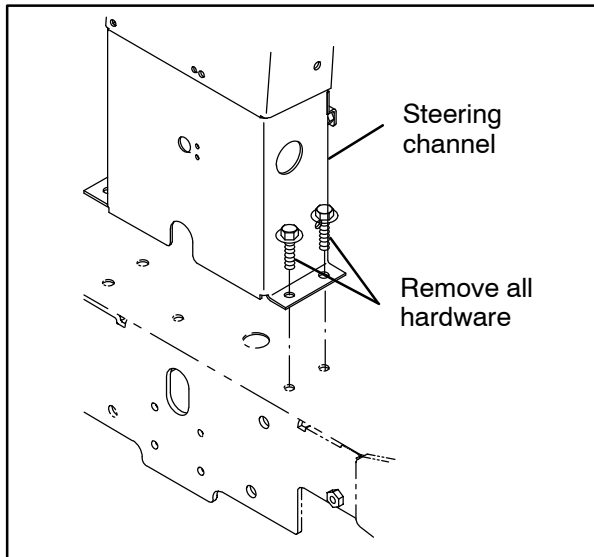
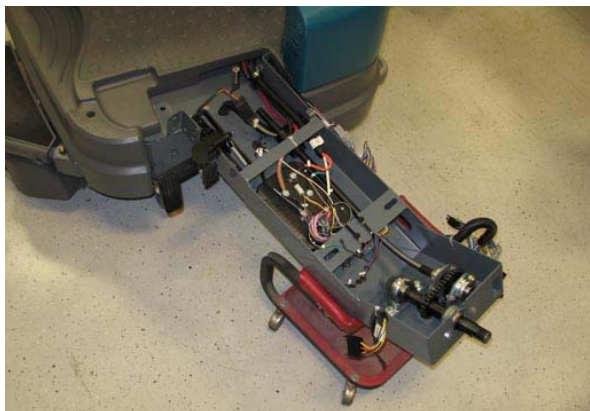

FIG. 25
FIG. 26
26. Remove hardware securing the steering channel to the machine, lift the steering channel up, and tilt it to the front of the machine. (Fig. 25 / Fig. 26)